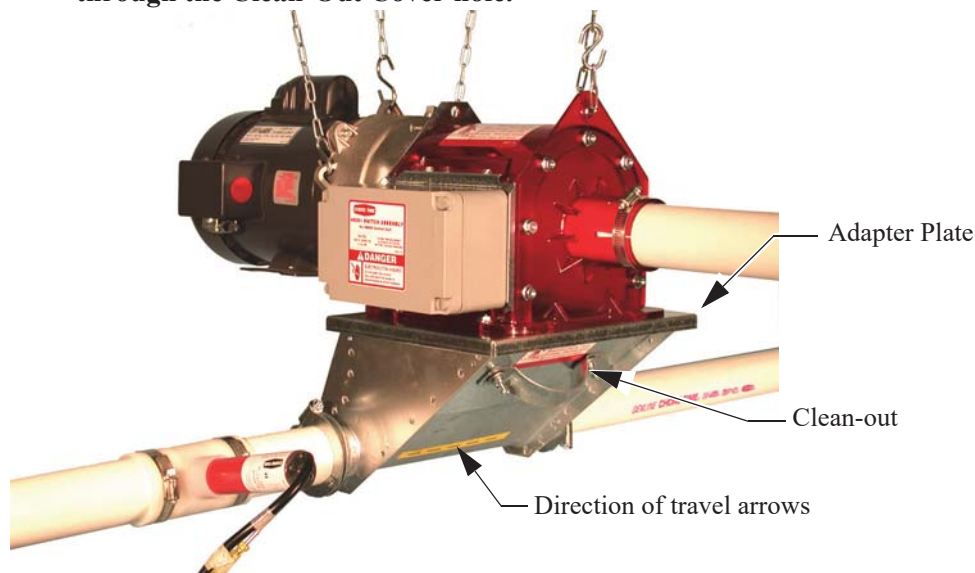

Figure 1. Auger Tubes run at a right angle.
2. Attach the Adapter Plate to the bottom of the control unit. **See Figure 1 & 2.**